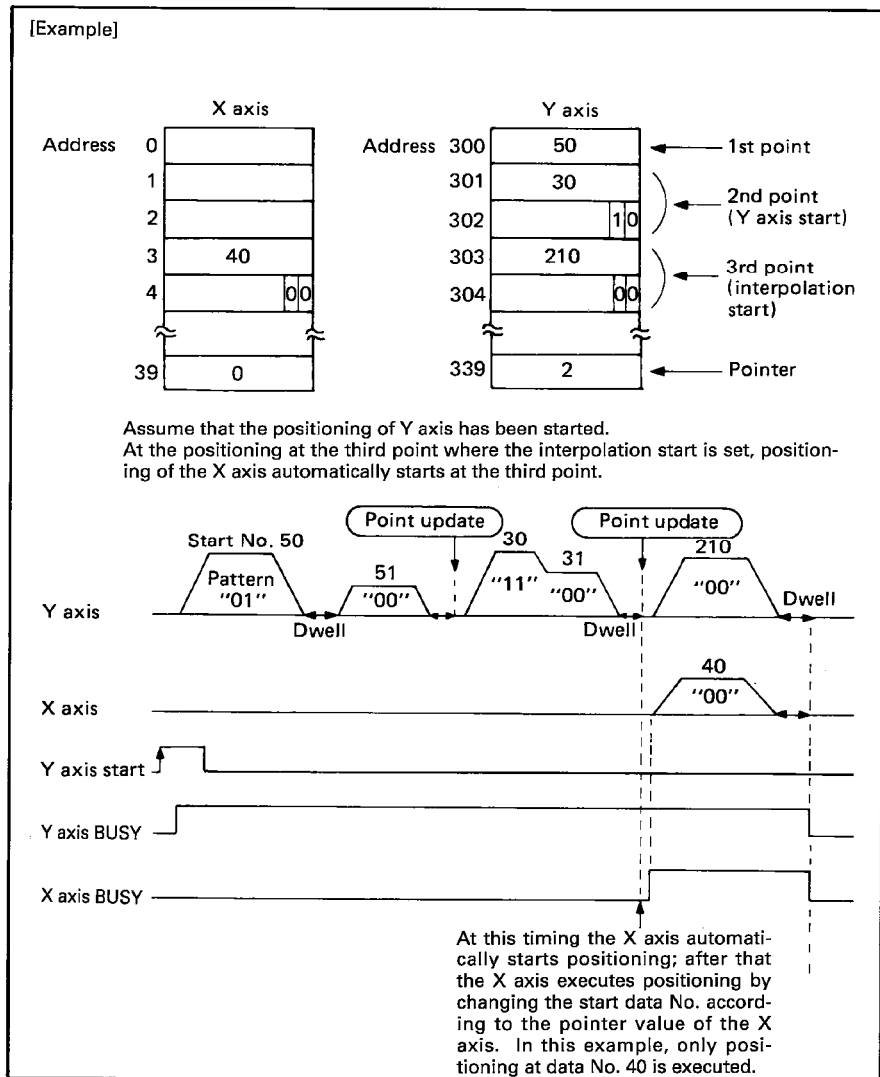

Fig. 2.33 Start Data Example 3
- 3) If the interpolation start (00) or both-axis start (11) is set for the start axis of either of the two axes, the mating axis automatically starts positioning using the start data No. set at the location of the same point when the mating axis is not BUSY (See Fig. 2.33.).